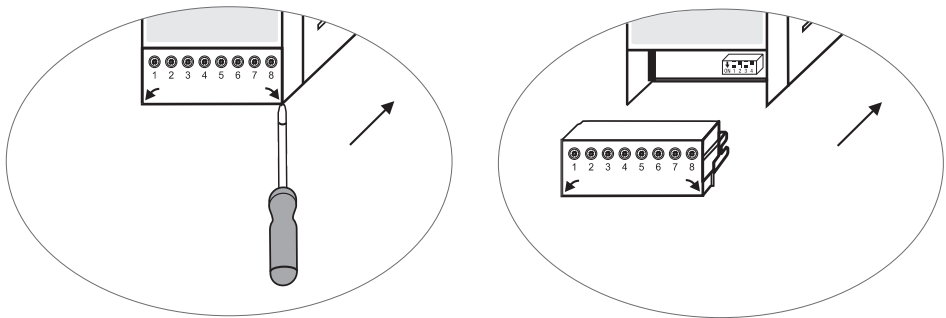

Fig. 15
- Remove the upper and lower terminal strips (Fig. 15)